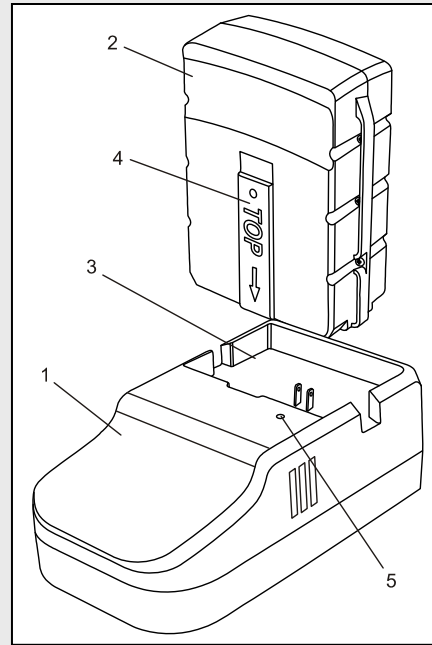

Fig. 2
1. To charge the CORE™ Power Cell, place the charger (1) in a dry location near a 120 V AC, 60 Hz electrical outlet and plug it into the outlet (Fig. 2).